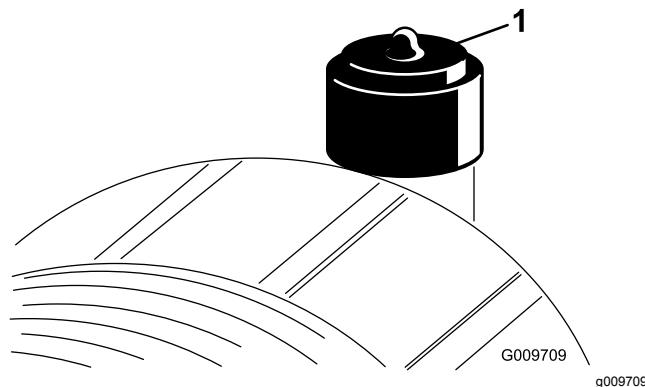

Figure 46
Service the air-cleaner filter only when the service indicator (Figure 46) requires it. Changing the air filter before it is necessary only increases the chance of dirt entering the engine when the filter is removed.
9. Reset the indicator (Figure 46) if it shows red.